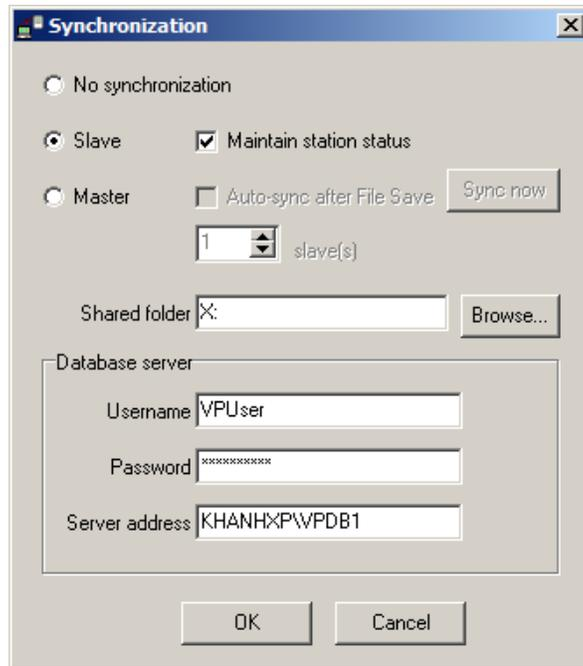

Figure 43
5. Turn on Slave sync mode in VisionPro. (Figure 43)